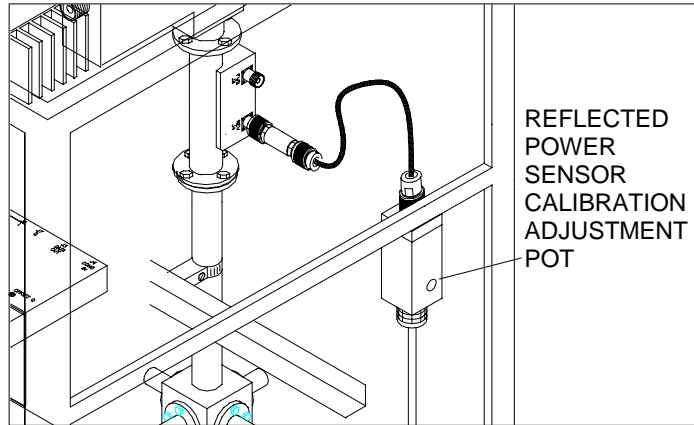

Figure 5-20 Reflected Power Sensor Calibration Adjustment Pot
4. The Reflected Power Sensor calibration potentiometer is exposed by removing the metallic plug from the side of the sensor housing (see Figure 5-20). Use a small flat-blade screwdriver to make the adjustment and calibrate the sensor.